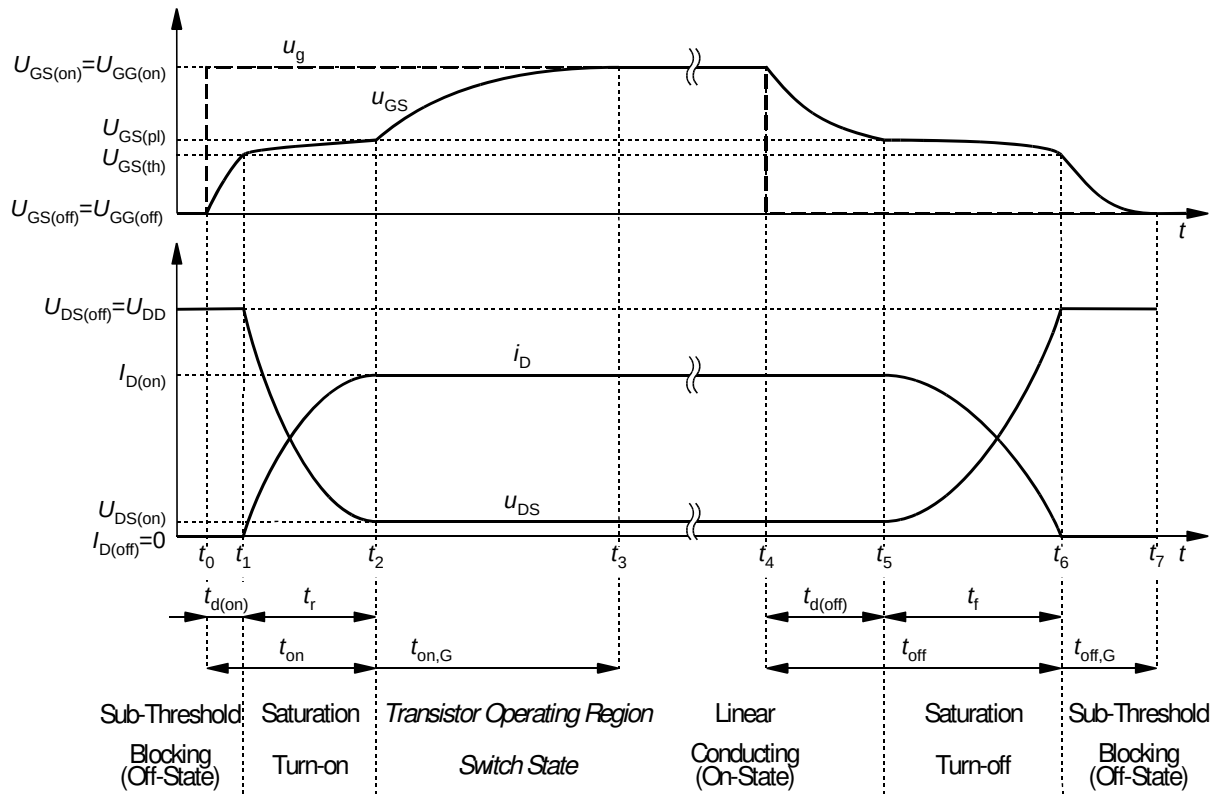

Fig. 5. Voltage and current waveforms during MOSFET switching
11. Adjust (generating a switching pulse train after each setting change is made) the time base and the trigger event position (*Horizontal Scale* and *Horizontal Position* knobs) so that one pulse of the u_{GS} voltage is visible in its entirety (cf. Fig. 5) and occupies most of the screen horizontally.
12. Using the 2 button, display the waveform from channel 2, i.e. the u_{DS} voltage. Check whether the waveform is correct (see Fig. 5).
18. Generating switching pulse trains, adjust measurement path gain and waveform position (*Vertical Scale* and *Vertical Position* knobs) so that the current waveform can be optimally seen, i.e. that it fills the screen to the maximum extent vertically but does not extend beyond it. Check whether the waveform is correct (see Fig. 5).
- (a) generating switching pulse trains, modify the time base (*Horizontal Scale*) and the trigger event position (*Horizontal Position*) so that the transistor's turn-on process (not any other operating state) can be observed with the highest accuracy possible, starting at the beginning of transition in the control circuit and up to waveforms settling in the power loop, i.e. all along the t_{on} interval (see Fig. 5);
- (b) repeat step 3 in its entirety, i.e. all of the included sub-steps [not only some selected ones, with the exception described in the remark under sub-step 3(d)], except that when assessing the correctness of the observed waveforms, obviously the turn-off process should be considered instead of the turn-on one, i.e. the t_{off} interval in Fig. 5.